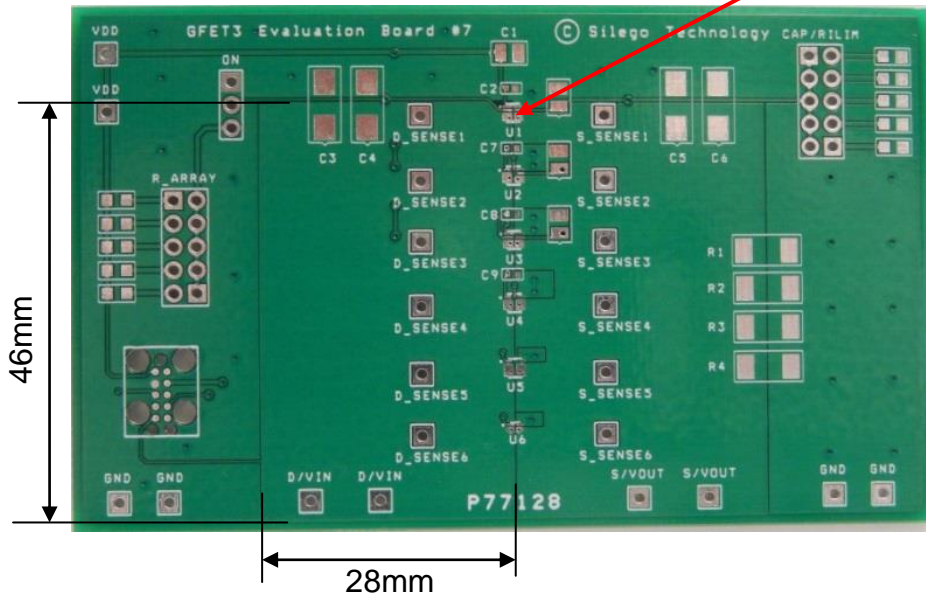

Figure 3. SLG59M611V Evaluation Test Board
2.3. The D/VIN and S/VOUT pins carry significant current. Please note how the D/VIN and S/VOUT pads are placed directly on the power planes in Figure 3, which minimizes the $R_{ds(ON)}$ associated with long, narrow traces. The D/VIN, S/VOUT and GND pins dissipate most of the heat generated during high-load current condition. The layout shown in Figure 3 is illustrating a proper solution for heat to transfer as efficiently as possible out of the device.